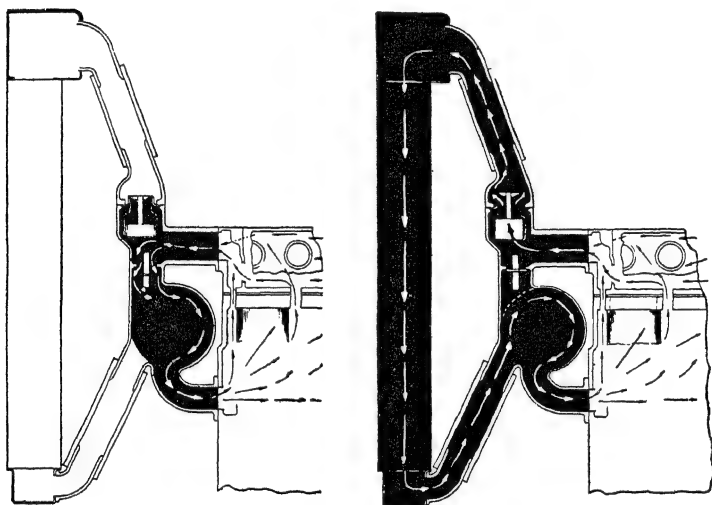

Fig. 16. Buick Cooling System Recirculation Fig. 17. Normal Circulation in Buick Cooling System
**Buick Thermostat.** The circulation of the cooling fluid within the cooling system of the Buick engine is illustrated in Figs. 16 and 17. The flow of the cooling solution is thermostatically controlled,
the by-pass type of water temperature control being used. This system permits the water pump to circulate the coolant to the engine during the warm-up period without passing through the radiator, thus allowing the engine to reach its normal operating temperature quickly. This recirculation is illustrated in Fig. 16 where it will be noted that the thermostat permitting water to circulate to the radiator is closed and the water merely leaves the top of the cylinder block and is forced back into the lower portions of the cylinder block water passages. This control is accomplished by means of a thermostat which is located in the passage of the
cylinder head water-outlet and its spring loaded valve located in the water passage between the cylinder head water outlet and the water pump inlet, as shown in Figs. 16 and 17.
The spring loaded valve is somewhat smaller than the neck where it is located and this allows of a fixed orifice. The total area of the orifice is equivalent to a  $\frac{1}{2}$ -inch hole and permits a thermosiphon circulating when the engine is not running, cutting down the effect of what is termed "after-boil." "After-boil" refers to the stagnating of the coolant in a hot engine when the pump is not circulating the solution. During the time that the coolant is below normal operating temperature and the engine is running, it is blocked from circulating through the radiator by the thermostat valve. The pump pressure forces the coolant through the by-pass valve and allows the coolant to recirculate through the cylinder block and head, as shown in Fig. 16. When the coolant has reached a temperature of 148 to 153 degrees, the thermostat valve starts to open and the circulation proceeds in the normal way. At approximately 170 degrees the thermostat is fully open, relieving the water pump pressure on the by-pass valve which automatically closes.